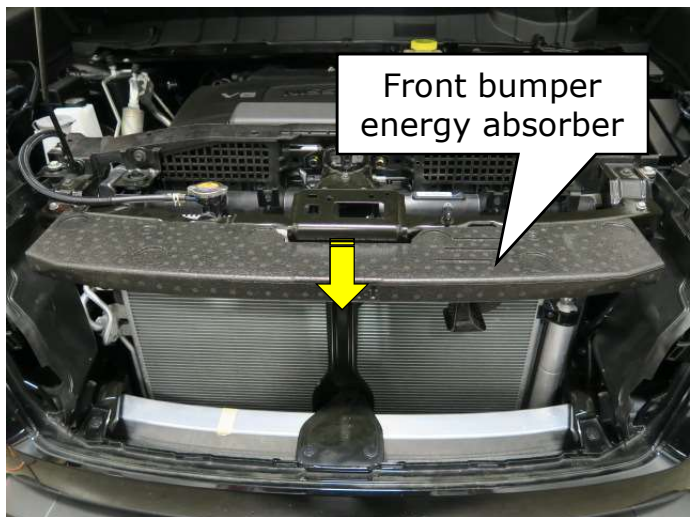

Figure 6
9. Remove the front bumper energy absorber from the front bumper retainer bracket by gently pulling away from the front of the vehicle. (Figure 6)